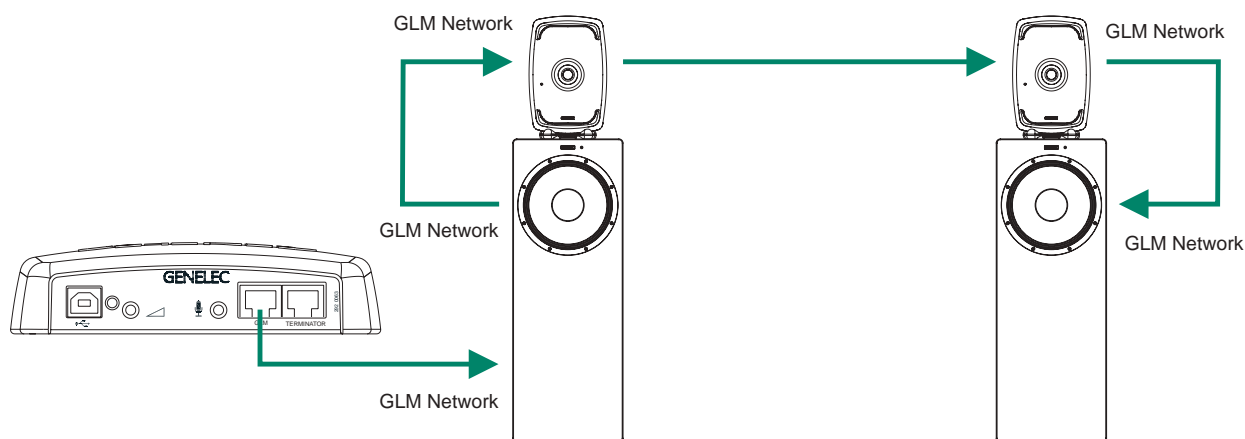

Figure 8. Cabling example for GLM management network; GLM network uses the provided 5-meter CAT cables
- Connect a CAT5 (RJ45) cable between each monitor and adaptive woofer system and finally to the control network input of the GLM Adapter device (see Figure 8).